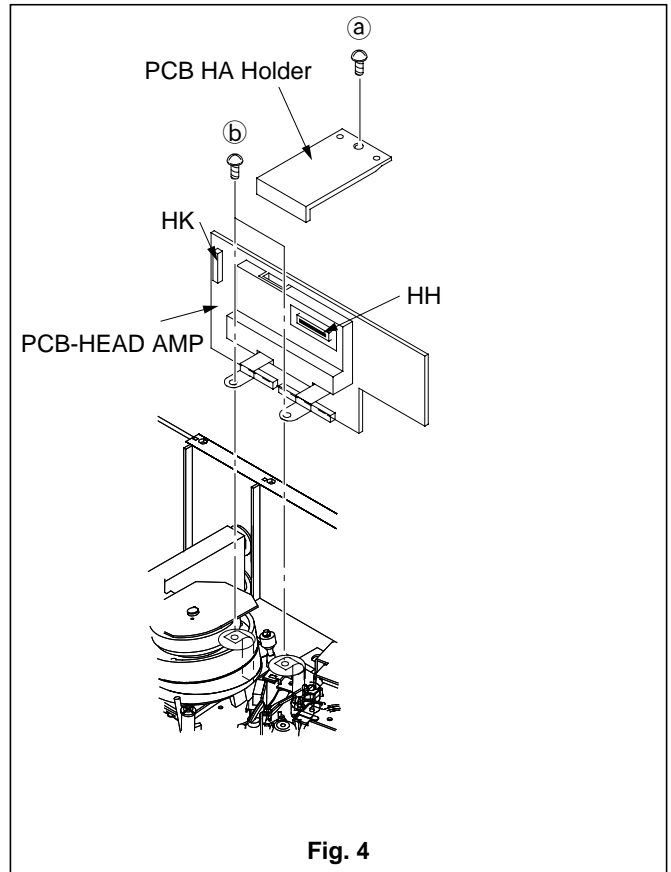

Fig. 4
6. Remove the two screws (b) shown in Fig. 4 and raise the PCB-HEAD AMP to remove it.